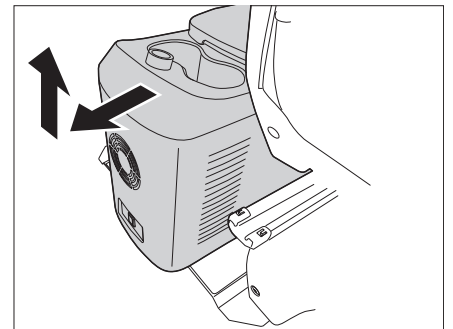

Fig. 89 Removing the cooler
- Pull the cooler to the rear and remove it upwards (Fig. 89).